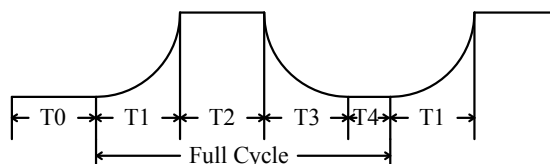

Figure 3 Timing Parameters
2. In One Shot Programming mode, the PWM duty cycle is defined by T0-T4. T0 is holdoff time. T1 is Gamma-Corrected ramping up time. T2 is hold time. T3 is Gamma-Corrected ramping down time. T4 is off time. (See in figure 3)
T0 is the hold off delay before the waveform (described by the values of T1~T4) begins as shown in Figure 3. The hold off delay occurs only after 1) any 8-bit value is written to the update register (0Ch), or 2) turn on the One Shot Programming mode by programming the RGB Mode Register (02h)